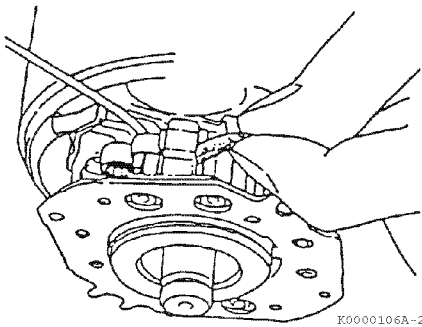

Figure 11-31
- Position the brush springs in brush holders (Figure 11-31). Reinstall the brushes in the brush holders. Reversing the brushes will cause the starter motor to turn backwards.